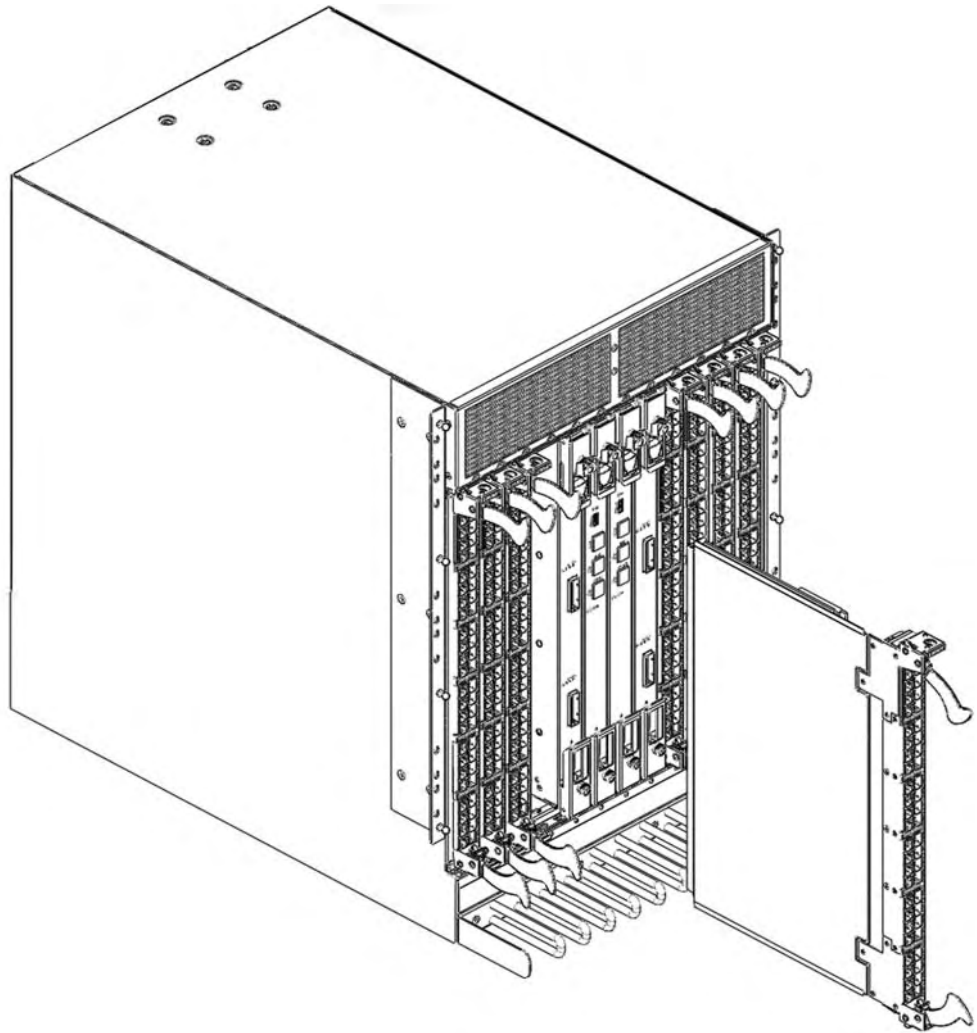

Figure 26. Port blade removal and installation (16-port blade shown as example)
9. For FC8-16, FC8-32, FC8-48, and FC10-6 port blades: Adjust the ejectors to the open position. (See Figure 26 on page 59.) Unscrew the two thumb screws from the top and bottom ejectors on the blade using the Phillips screwdriver. Unscrew the top thumb screw until it pops out. This initiates a hot-swap request.